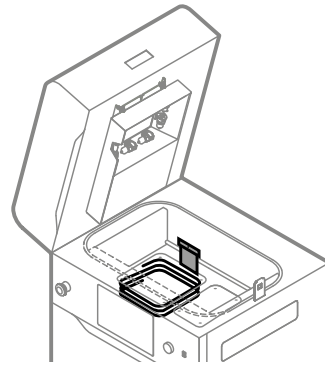

Fig. 12.39 Use a plastic spatula to press down the sealing.
21. Use a clean, plastic spatula while pressing down the fibreglass rope (fig. 12.39).